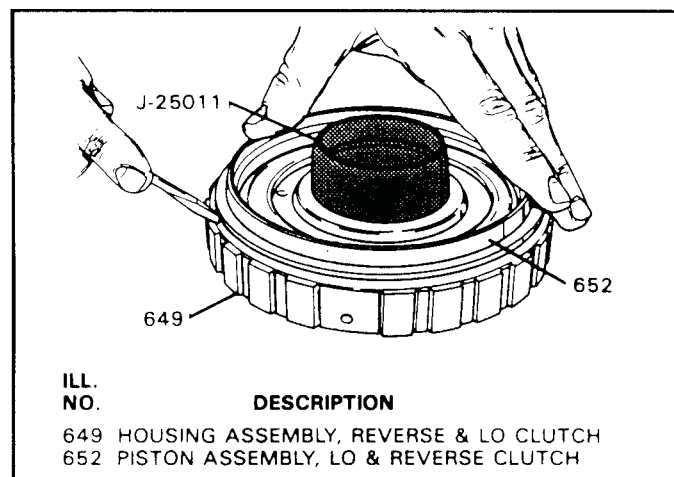

Figure 72
34. Install inner lip seal protector J-25011 on housing as shown in Figure 72.
35. Install the Lo/Reverse piston over the into housing and over seal protector, as shown in Figure 72.
36. Using a small flat blade screwdriver to prevent any seal damage, install piston into the support (See Figure 72).